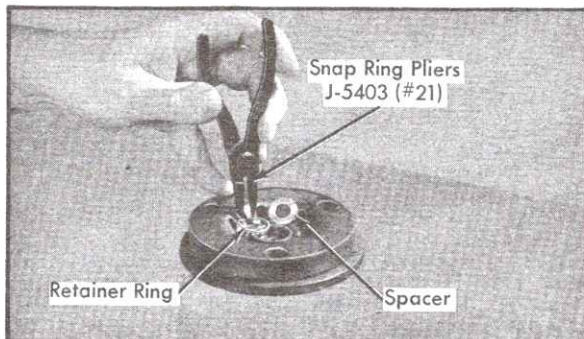

Fig. 1-31 Removing Hub Retainer Ring & Spacer
5. Remove hub retainer ring using Snap Ring Pliers, J-5403 (#21), and then remove hub spacer, Fig. 1-31.